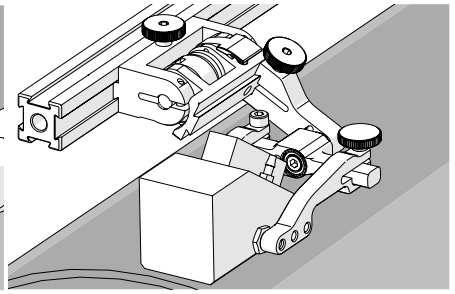

Fig. 177 - Spring loaded scan position
4. Gently lower probe holder and wedge to the scanning surface (Fig. 177).